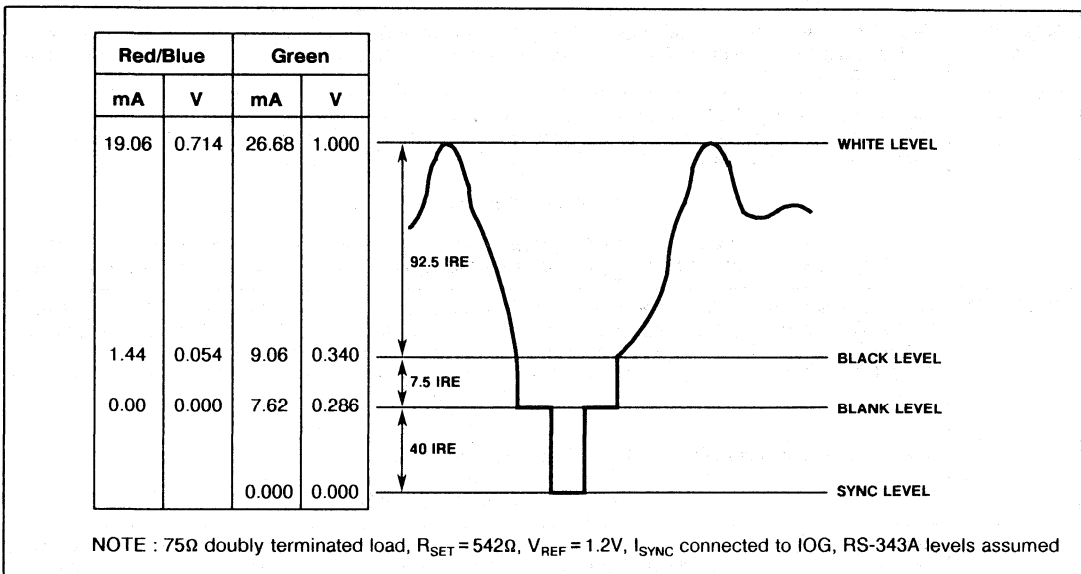

Fig.3 Composite video output waveform
SYNC and BLANK are latched on the rising edge of the clock to maintain synchronisation with the colour data. These inputs add appropriately weighted currents to the analog outputs, producing the specific output levels required for video applications as shown in Fig. 3. Table 1 details how the SYNC, BLANK and REF WHITE inputs modify the output levels.
FS ADJUST	<p>Full scale adjust control. A resistor (RSET) connected between this pin and AGND controls the magnitude of the full video signal (Fig. 3). The current flowing in the RSET resistor is equal to 32 LSBs. Note that the IRE relationships in Fig. 3 are maintained, regardless of the full scale output current. The relationship between RSET and the full scale current on IOG (assuming ISYNC is connected to IOG) is:</p> $\text{IOG (mA)} = 12082 \times \frac{V_{\text{REF}} \text{ (V)}}{R_{\text{SET}} \text{ (}\Omega\text{)}} \approx 387 \text{ LSBs}$ <p>The full scale output current on IOR and IOB for a given RSET is defined as:</p> $\text{IOR, IOB (mA)} = 8624 \times \frac{V_{\text{REF}} \text{ (V)}}{R_{\text{SET}} \text{ (}\Omega\text{)}} \approx 276 \text{ LSBs}$